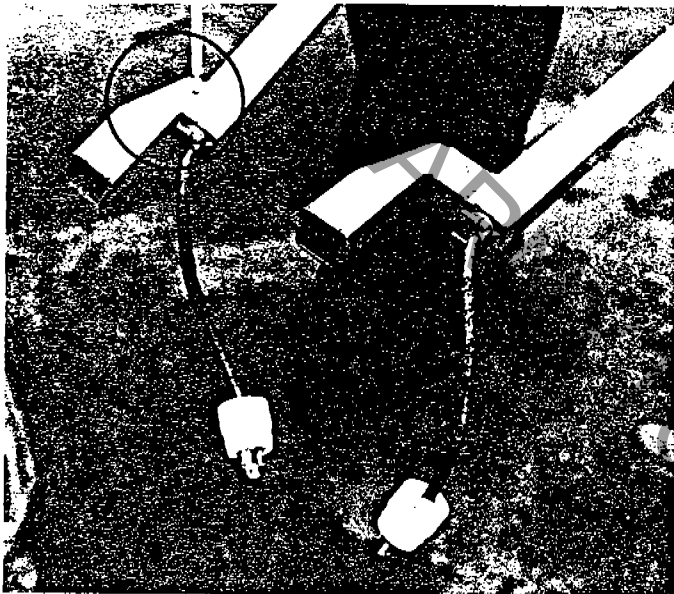

Fig. 41
- d. *Note:* The 2 light sections to be installed on the side of the lower level steps are different from all the other light sections. The ends of the light posts that slide into the support slots are less offset than the other posts. (Fig. 41)